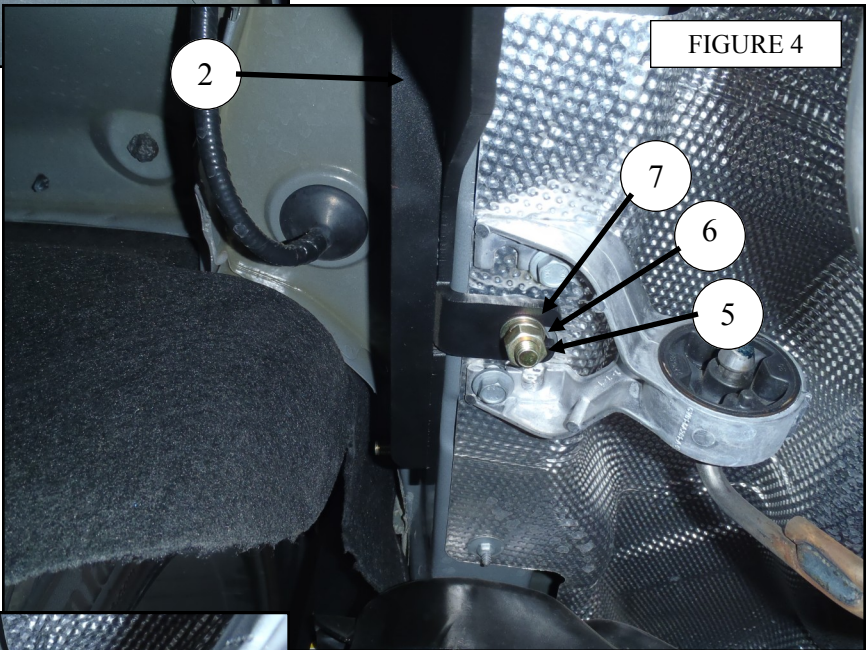

FIGURE 4
- Attach the driver side mounting bracket to the installed stud plates using (x1) M10 flat washer, (x1) M10 split lock washer, and (x1) M10 hex nut per stud plate. Leave loosely assembled. FIGURE 4